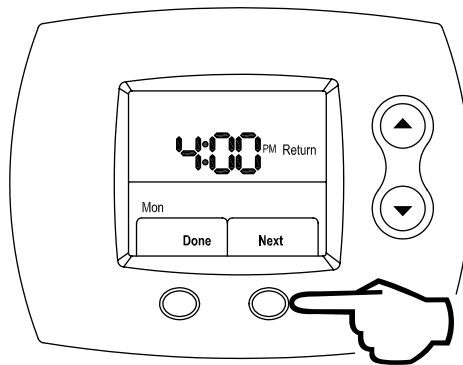

Figure 63
Step 16: Press the **RIGHT** (Next) button to set the Return period start time, which is shown in Figure 63.